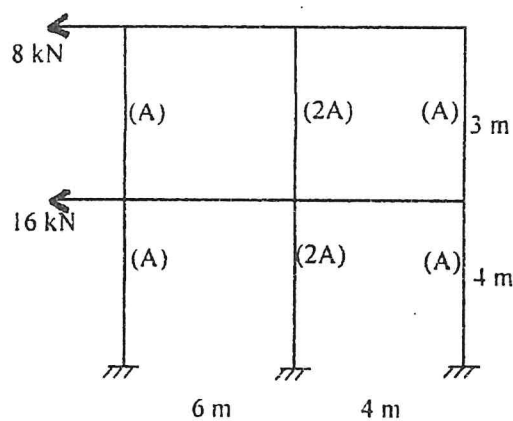

Fig. 10
6. (a) Using Cantilever Method, analyze the frame as shown in Fig. 10 and draw shear force diagram, bending diagram, and axial force diagram. Relative cross-sectional areas of the columns are shown in Fig. 10.